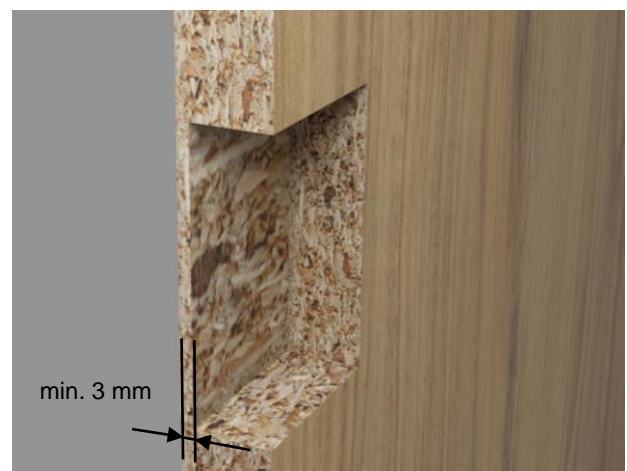

Figure 21
- In the case of blind holes in the board (Fig. 21), make sure that a residual thickness of 3 mm is maintained.